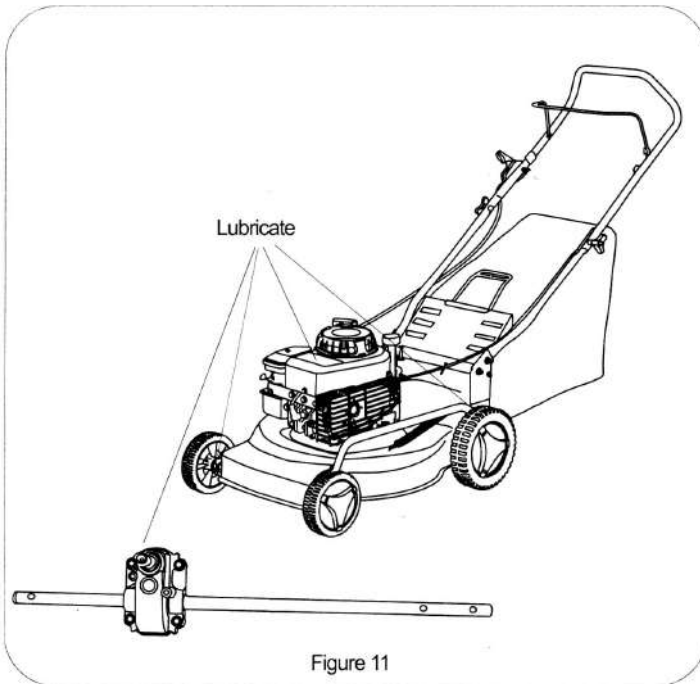

Figure 11
**Wheels:** Lubricate the wheels at least once a season with light oil (or engine oil). Also, if the wheels are removed for any reason, lubricate the surface of the axle bolt and the inner surface of the wheel with light oil. See Figure 11. **Engine**